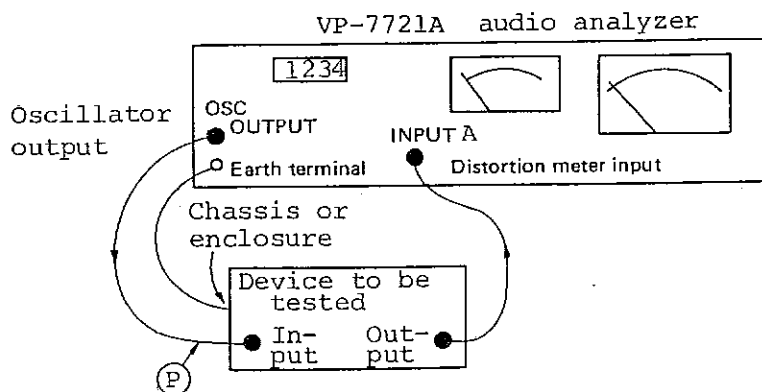

Fig. 4-15 Distortion measurement connection using internal oscillator
- a) Basic operation is the same as that described in Section 4.3. Connect the device to be tested to the analyzer as shown in Fig. 4-15. In this connection, the analyzer acts as an automatic tuning distortion measurement set.
- b) When the input and output of the device to be tested fits BNC connectors, the connection shown in Fig. 4-15 is possible. Coaxial cables are recommended. To prevent induction interference, connect a metal part of the device to be tested (such as chassis or enclosure) to the earth terminal of the analyzer as shown in Fig. 4-15
- c) When the input impedance of the device under test is 600-ohm, signals of the level displayed in the digital display are applied under the connection shown in Fig. 4-15. However, if the device under test has a high impedance, insert a 600 Ω termination pad at point (P). When the signal level is read in dBm, the signal should be terminated with 600 Ω . When the signal level is read in dB, the analyzer can be connected directly to a high-impedance input terminal only if you remember that the signal level is 6 dB higher than indicated.
The analyzer can also be used as an independent AC level meter indicating the true rms value. See Section 4.3 for the operation. Since the INPUT connectors are commonly used for distortion meter and the level meter, connect it according to Fig. 4-15 or 4-16.
- a) The S/N ratio can be measured by connecting the device to be tested as shown in Fig. 4-15.